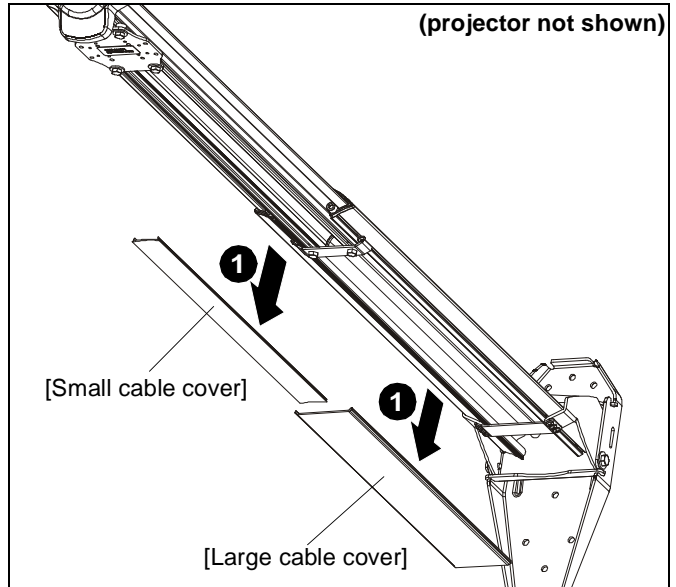

Figure 23
1. Remove cable management covers (if necessary) from short throw projector arm. (See Figure 23)